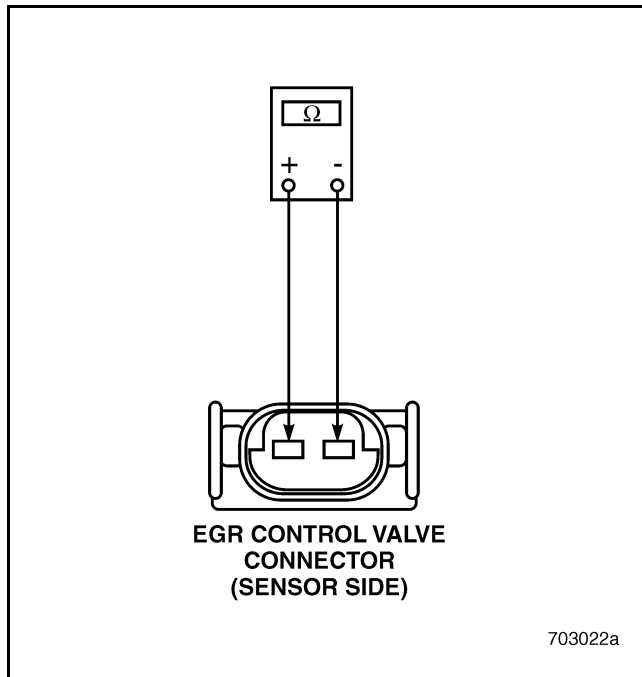

Figure 522
3. Check for continuity between the pins on the EGR control valve (see Figure 522).